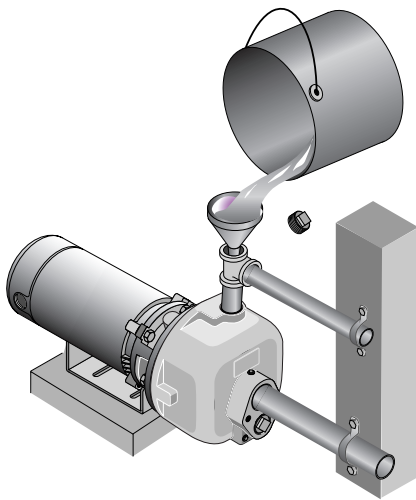

Figure 4: Fill Pump Before Starting
- Step 3. Fill pump and suction pipe with water (Fig. 4).